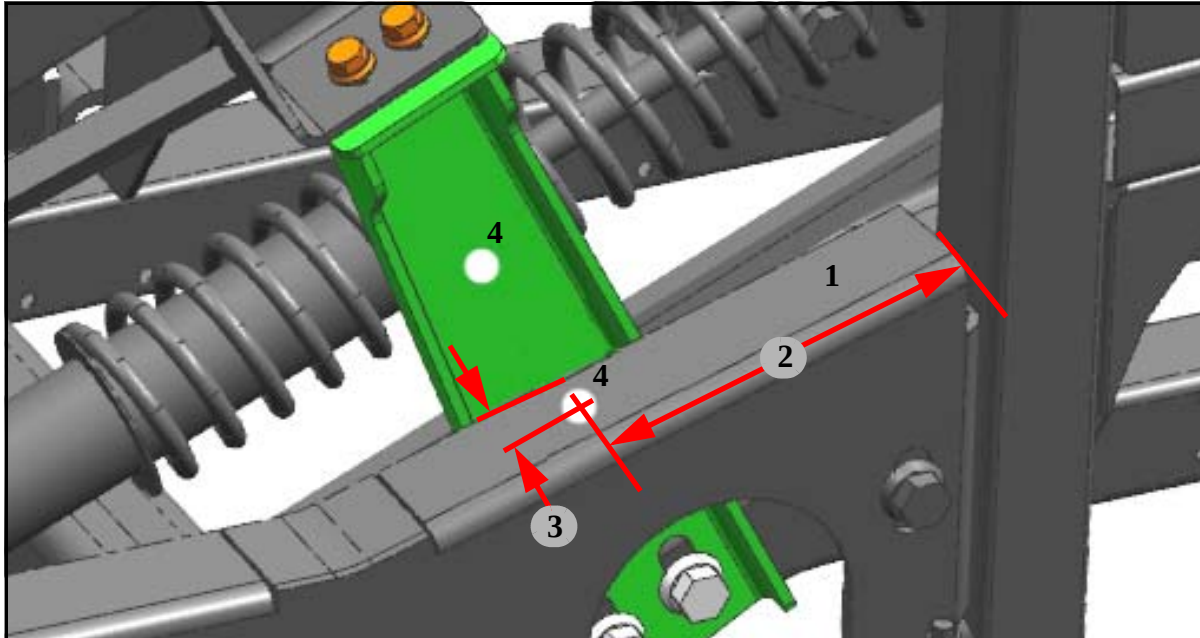

Figure 3. Idler pulley bracket angle drilled mounting hole dimensions.
5. Locate the existing snubber bracket assembly shown in Figure 3. Remove and discard the existing snubber bracket and mounting hardware. Retain the idler pulley to be re-installed at a later step in this procedure.
6. Using a 17/32 inch drill bit and a drill, drill a mounting hole in the tie bar plate per the dimensions shown in Figure 3.
Item	Figure 3 Description